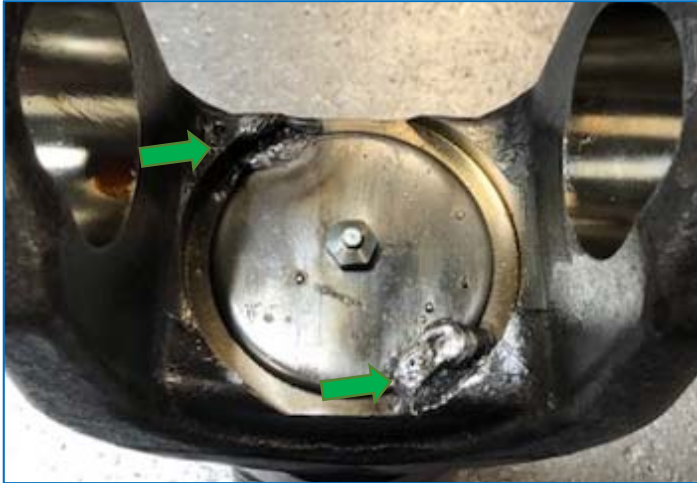

Figure 2: Top View of Metal Cap
- Tack welds on the top of the cap. See figures 2 and 3.